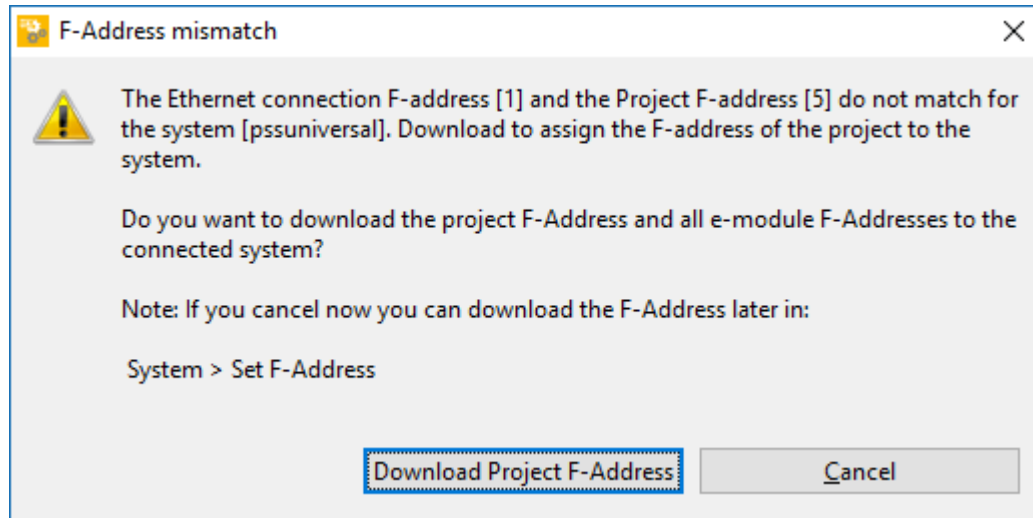

Figure 50: PASconfig – Function "Download Project F-Address" (Part 1, Start)
- b. in the 'PASconfig' tool, which are transferred from the TIA via the TCI interface (Figure 50: PASconfig – Function "Download Project F-Address" (Part 1, Start) [35]).